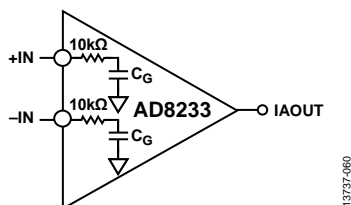

Figure 60. RFI Filter Without External Capacitors
Radio frequency (RF) rectification is often a problem in applications where there are large RF signals. The problem appears as a dc offset voltage at the output. The AD8233 has a 15 pF gate capacitance and 10 k $\Omega$  resistors at each input. This forms a low-pass filter on each input that reduces rectification at high frequency (see Figure 60) without the addition of external elements.